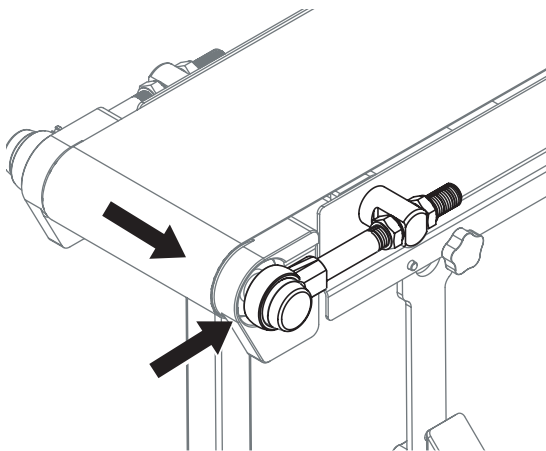

Figure 55
- a. Loosen the nut to shorten the length of the idler tail shaft and bring the belt closer to that side of the conveyor (**Figure 55**).